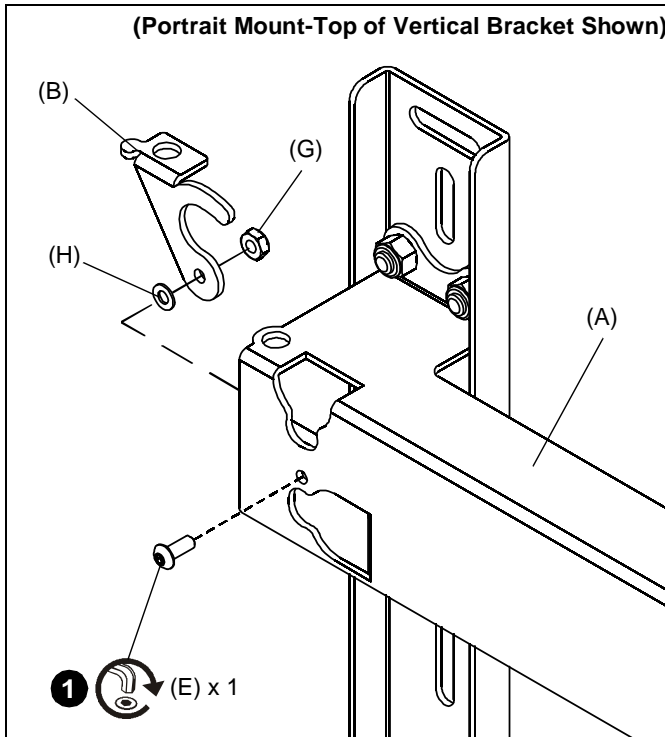

Figure 13
1. Attach locking flag (B) to wall mount (A) vertical bracket using one 10-24 x 1/2" button head cap screw (E), one .194 x .375 x .032" spacer (H), and one 10-24 lock nut (G) through lower hole on locking flag and upper hole on wall mount vertical bracket. Repeat with lower hole on wall mount vertical bracket. (See Figure 13)